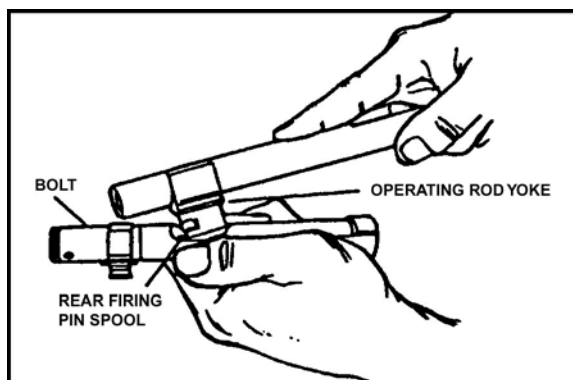

Figure 13. Rear of operating rod yoke positioned against rear firing pin spool.
- (1) Hold the bolt securely in one hand with the camming slot up. The face of the bolt should be toward the body.
- (2) Position the rear of the operating rod yoke against the rear firing pin spool with the other hand (Figure 13).